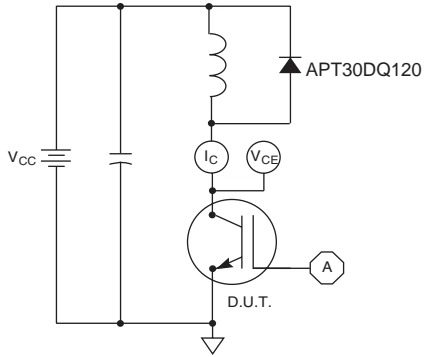

Figure 21, Inductive Switching Test Circuit
① Repetitive Rating: Pulse width limited by maximum junction temperature.
② For Combi devices, I_{ces} includes both IGBT and FRED leakages.
③ See MIL-STD-750 Method 3471.
④ E_{on1} is the clamped inductive turn-on energy of the IGBT only, without the effect of a commutating diode reverse recovery current adding to z a the IGBT turn-on loss. Tested in inductive switching test circuit shown in figure 21, but with a Silicon Carbide diode.
⑤ E_{on2} is the clamped inductive turn-on energy that includes a commutating diode reverse recovery current in the IGBT turn-on switching loss. (See Figures 21, 22.)
⑥ E_{off} is the clamped inductive turn-off energy measured in accordance with JEDEC standard JESD24-1. (See Figures 21, 23.)
⑦ R_G is external gate resistance not including gate driver impedance.